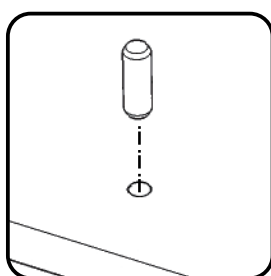

Figure 3
Insert Dowels into pre-drilled holes in Base (J). (See Figure 3)